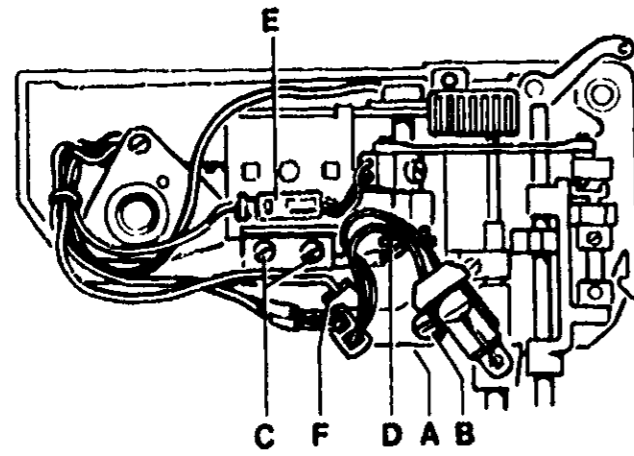
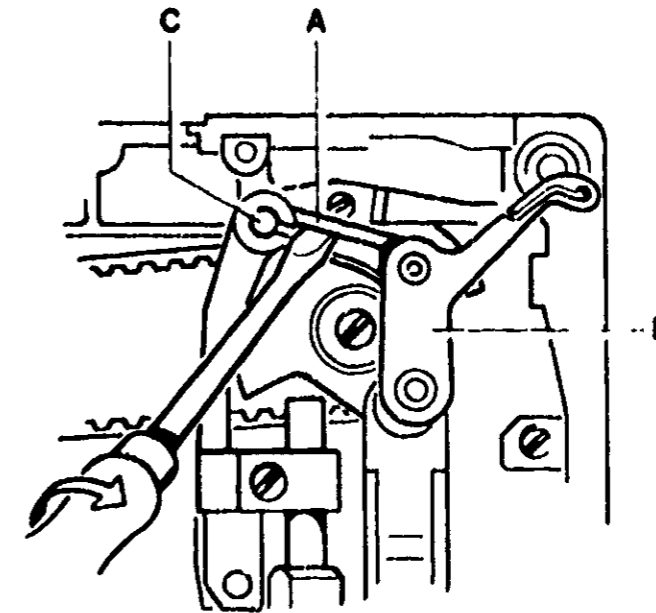

FIGURE 69
FIGURE 71
Remove screw (B) and remove lampholder unit (A) (Figure 69)
Insert screwdriver blade into slot in connecting rod (A) (Figure 71) Slightly rotate screwdriver to open up the connecting rod bushing Slip rod (A) and takeup lever off of the shafts
Reassemble by following disassembly procedure in reverse. Be sure that connecting rod (A) (Figure 71) is properly positioned on its pivot (C). Connecting rod (A) should snap into place. When installing the lampholder (A) (Figure 69) be sure that the small fork (F) clips over the mainframe.